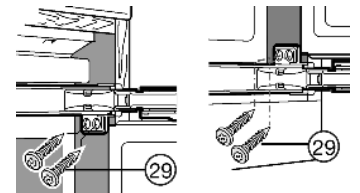

Fig. 22
- ▶ On both doors fit Spax screws *Fig. 22 (29)* through the plates of the upper and lower hinges.